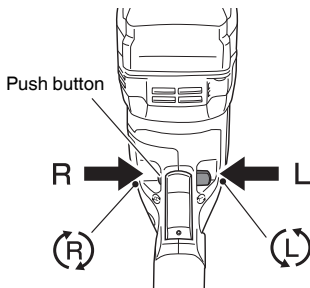

Fig. 5
- The dust cup and dust collector (B) are for exclusive use of concrete drilling work. Do not use them for wood or metal drilling work.
- Insert dust collector (B) completely all the way until it makes contact.
- When turning the rotary hammer on while dust collector (B) is detached from a concrete surface, dust collector (B) will rotate together with the drill bit. Make sure to turn on the switch after pressing the dust cup on the concrete surface. (When using dust collector (B) attached to a drill bit that has more than 190 mm of overall length, dust collector (B) cannot touch the concrete surface and will rotate. Therefore, please use dust collector (B) by attaching to drill bits which have an overall length of 166 mm or less.)
- Please replace the drill bit after removing dust collector (B).
**6. Confirm the direction of bit rotation (Fig. 5)**